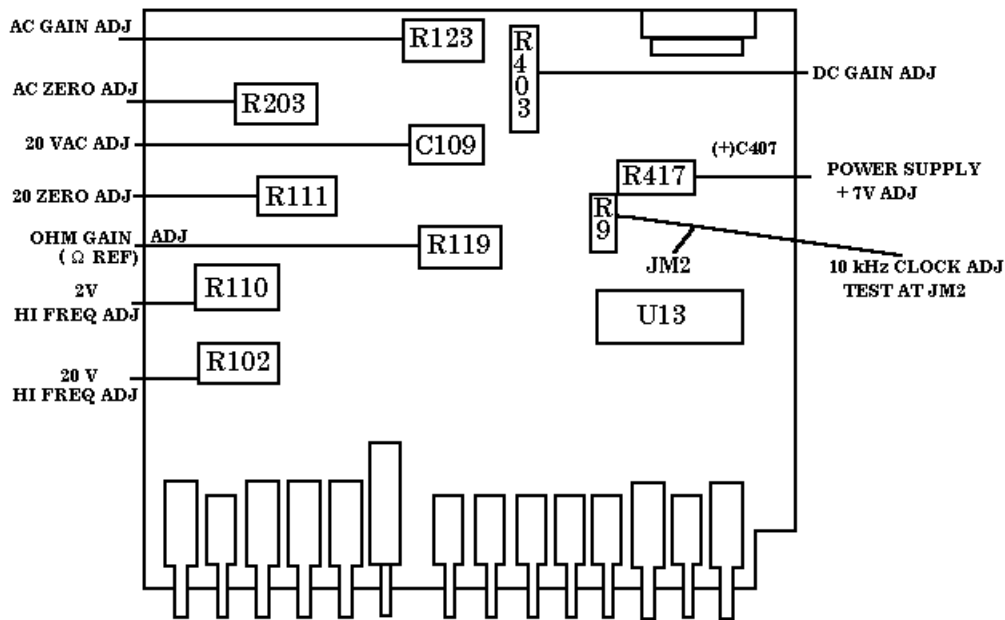

Figure 1. Adjustments locations - models 3435A and 3438A.
- (1) Connect calibrator output to TI **VW** and **COM** terminals.
- (2) Set calibrator output to 19.00 V dc. If TI does not indicate between 18.97 and 19.03 V dc, perform **b** below.
- (3) Repeat technique of (2) above, using settings and indications listed in table 3.
**b. Adjustments.** Adjust DC GAIN ADJ R403 (fig. 1) for an indication of 19.00 V dc on TI (R).
- (1) Adjust AC ZERO ADJ R203 (fig. 1) for a TI indication of 0.00 V ac (R).
- (2) Adjust AC GAIN ADJ R123 (fig. 1) for a TI indication of 19.00 V ac (R).
- (3) Adjust 20 V HI FREQ ADJ R102 (fig. 1) for a TI indication of 19.00 V ac (R).
- (4) Adjust 20 VAC ADJ C109 (fig. 1) for a TI indication of 19.00 V ac (R).
- (5) Adjust 2 V HI FREQ ADJ R110 (fig. 1) for a TI indication of 1.900 V ac (R).
(1) Adjust 20 ZERO ADJ R111 (fig. 1) for a TI indication of 0.00 kΩ.
(2) Set calibrator to 19 kΩ. Adjust OHM GAIN ADJ (Ω REF) R119 (fig. 1) for TI indication of actual calibrator resistance.
(1) Connect multimeter to positive side of capacitor (+) C407 (fig. 1) and ground. If digital multimeter does not indicate between 6.99 and 7.01 V dc, perform **b(1)** below.
(2) Set multimeter to measure frequency and connect frequency counter input to JM2 (fig. 1). If multimeter does not indicate frequency between 9980 and 10020 Hz, perform **b(2)** below.
(1) Adjust POWER SUPPLY + 7 V ADJ R417 (fig. 1) for 7.00 (R).
(2) Adjust 10 kHz CLOCK ADJ TEST AT JM2 R9 (fig. 1) for 9980 to 10020 Hz (R).